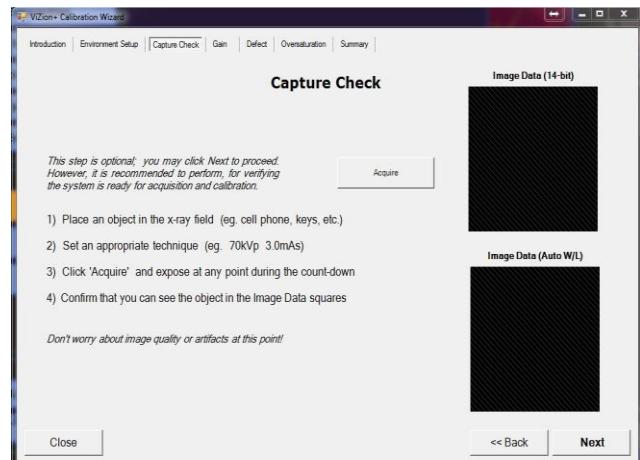

Figure 27: Capture Check
10. **Capture Check Tab:** set your x-ray generator to 70KVp 3.0 mAs, open your collimator 1" past the edges of the panel to ensure full coverage of the flat panel detector, select Acquire, and take an expose during the 10 second countdown. The black boxes will display pre-calibrated images, once completed click Next. Figure 27